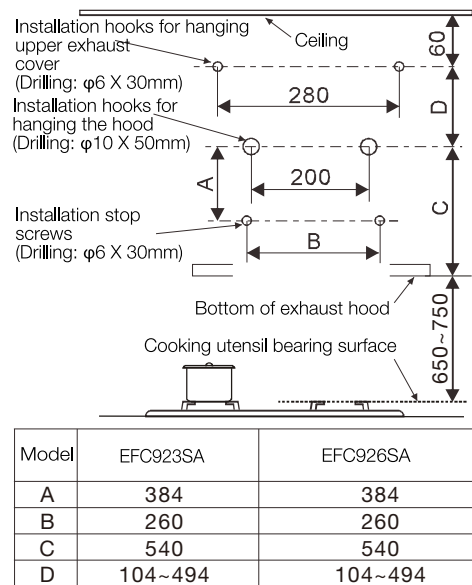

Fig. 1
1. In reference to Fig. 1, use an impact drill to drill two holes at appropriate positions in the wall, each of 10mm in diameter and 50mm in depth, and four holes, each of 5mm in diameter and 30mm in depth. Bury the large expansion pipes in the large holes and the small expansion pipes in the small holes. Use large wooden screws to secure the hooks for hanging the hood at the corresponding positions. Use small wooden screws to secure the hooks for hanging the upper exhaust cover.
5. From the inside of the hood, twist two small wooden screws into the expansion pipe (see Fig. 3) in the stop screw holes (Fig. 1). This is to prevent the hood from moving or falling during operation.